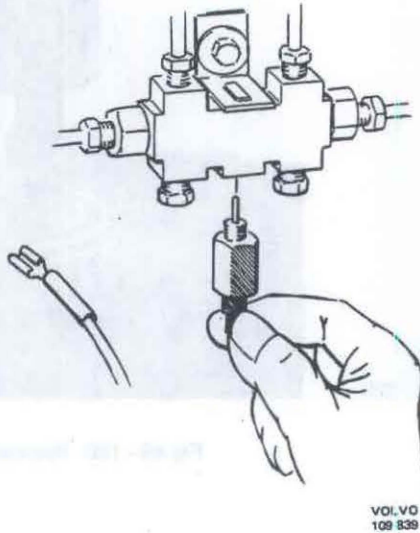

Fig. 46-132. Removing the contact
5. Bleed the wheel cylinders. The pressure difference contact should be removed before bleeding, see Fig. 46-132. If a bleeder unit is used, the working pressure should be 0.2 MPa (2 kp/cm2 = 28 lbf/in2). For more detailed instructions about bleeding, see Part 5.